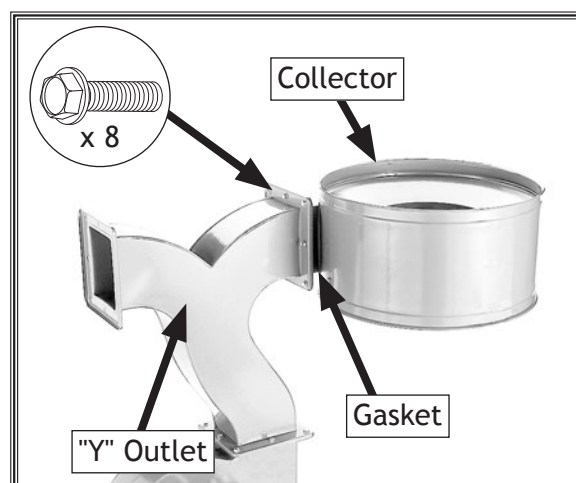

Figure 10. Collector installed.
6. With assistance, place one of the rubber gaskets around the rim of the intake on one of the collectors, then secure the collector to the metal "Y" outlet with (8) $\frac{5}{16}$ "-18 x $\frac{1}{2}$ " flange bolts (see Figure 10).